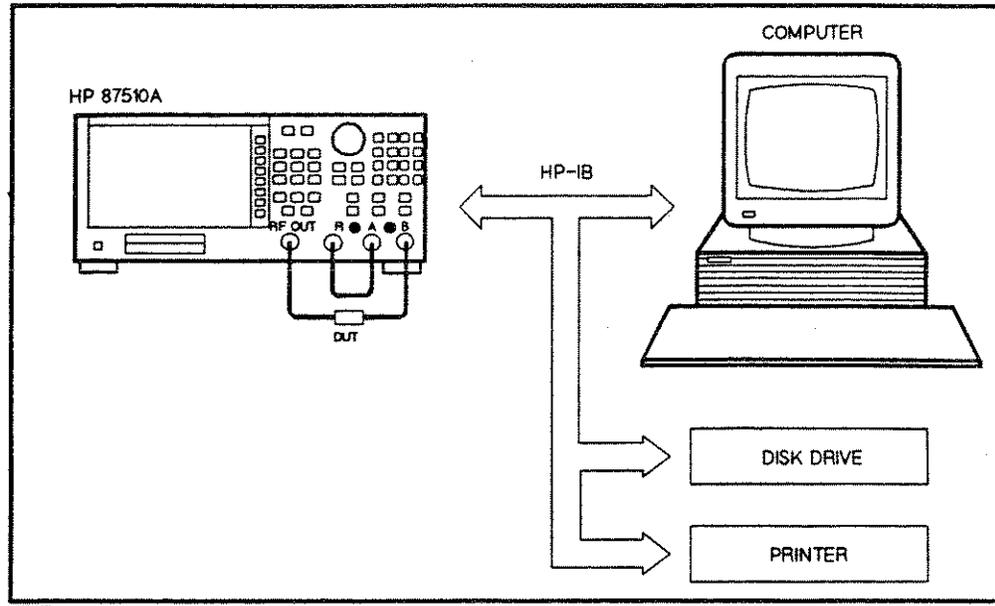

Figure 2-1. HP-IB Connections in a Typical Setup
1. Set up the HP 87510A as shown in Figure 2-1.